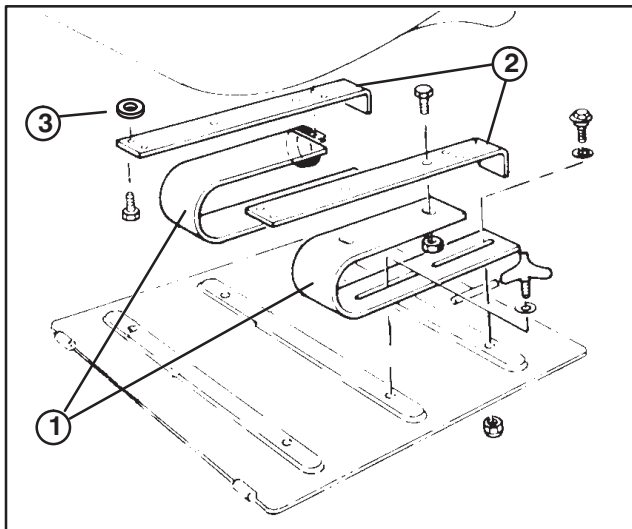

Figure 2
1. Attach “U” springs to seat mounting brackets with (4) capscrews and flange nuts as shown in figure 2.
2. Secure seat mount assemblies to bottom of seat with (4) flange head capscrews and (4) spacers. (Fig. 2). Spacers to be positioned between seat and seat mount.
5. Mount seat and spring assembly to rear holes in seat mounting plate with two shoulder bolts, small I.D. flat washers and locknuts (Fig. 2 & 5).
3. Shoulder bolt with washer and locknut (2)
4. Adjustment handle (2)
6. Secure front slot of seat springs to traction unit front mounting holes with adjustment handles and flatwashers (Fig. 2 & 5).
- Install manual tube into R-clamps, insert manual into tube and thread cap into tube (Fig. 2). Tighten capscrews.